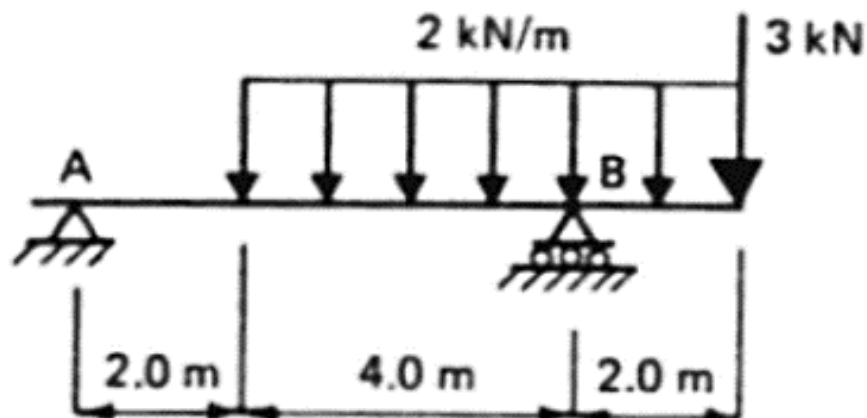

Figure 2
2. Figure 2 shows a beam subjected to distributed load and a point load. Sketch the shear force and bending moment diagram for the beam. Given that the allowable stress is 200 MPa, determine the section modulus and recommend a suitable beam section from Table 1.